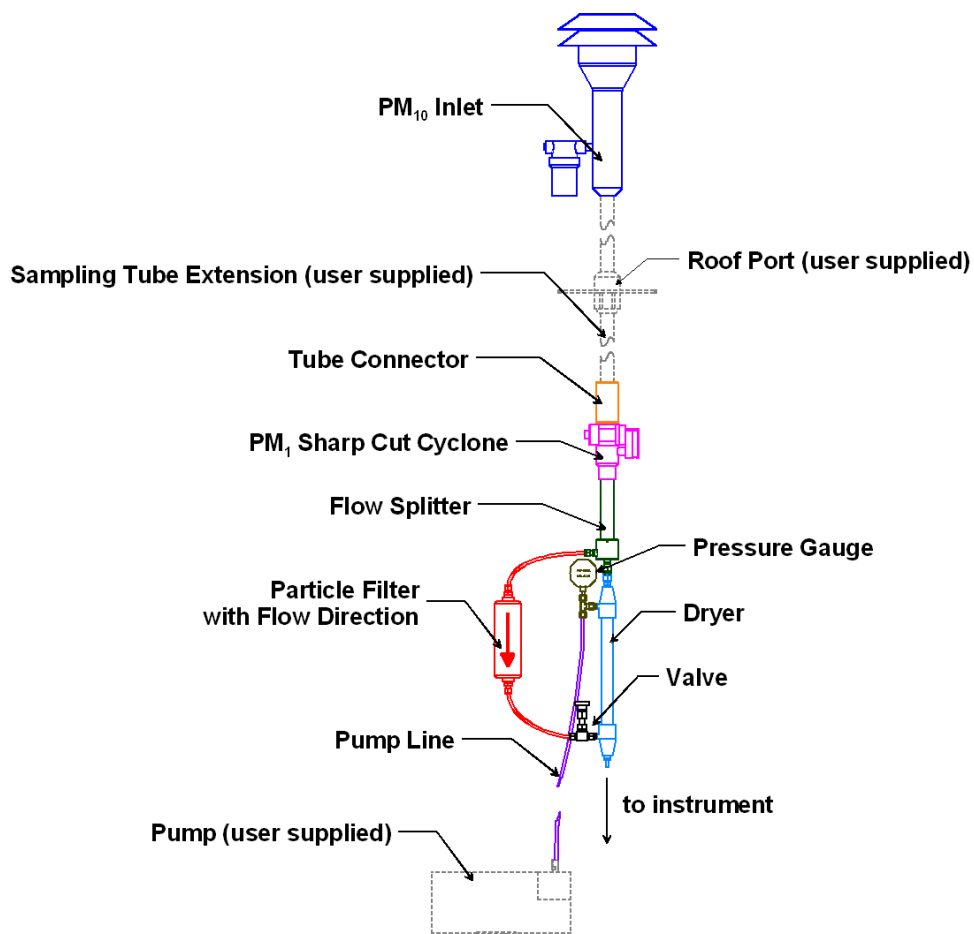

Figure 2-2
Figure 2-2 shows a schematic of the Environmental Sampling System.
Refer to Figure 2-2 to begin assembling the Environmental Sampling System:
5. Attach the tubing to the Swagelok® connectors. Observe the correct flow direction (see also Figure 2-2) for the filter (flow is from Flow Splitter to Dryer).